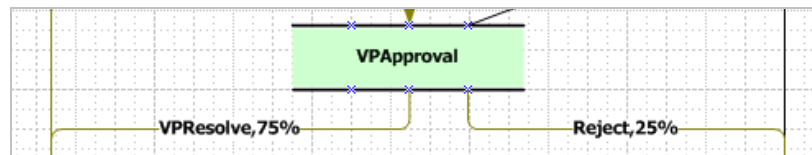

Figure 4-13. Connector Properties
- c. Click the Apply button. The connector as a result is now VPResolve (Figure 4-13).